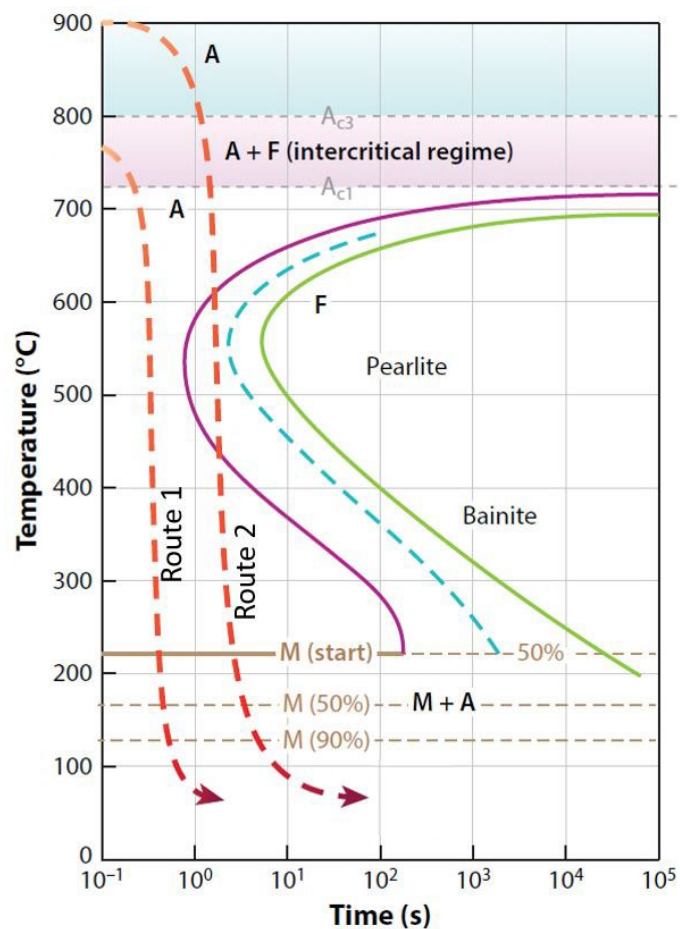

Figure 3. TTT diagram indicating the heat treatment methods of a DP steel;
- b) Figure 3 demonstrates two heat treatment routes to obtain a DP steel (the volume fractions of the two phases are 70% and 30%).